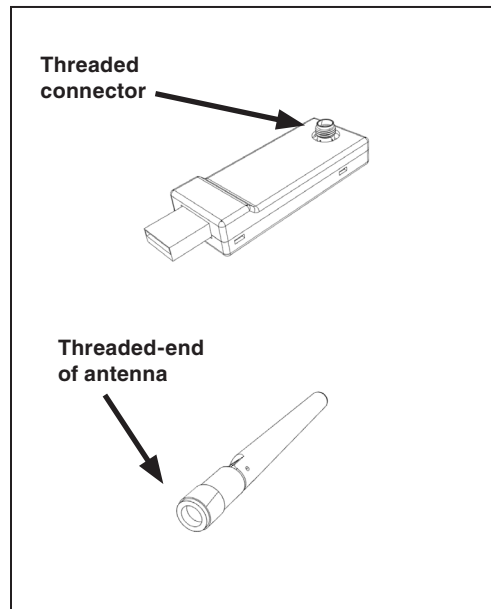

Figure 4. Connecting the antenna to the USB transceiver.
STEP 1. Screw the threaded bottom of the antenna into the threaded connector on the USB transceiver. See Figure 4.